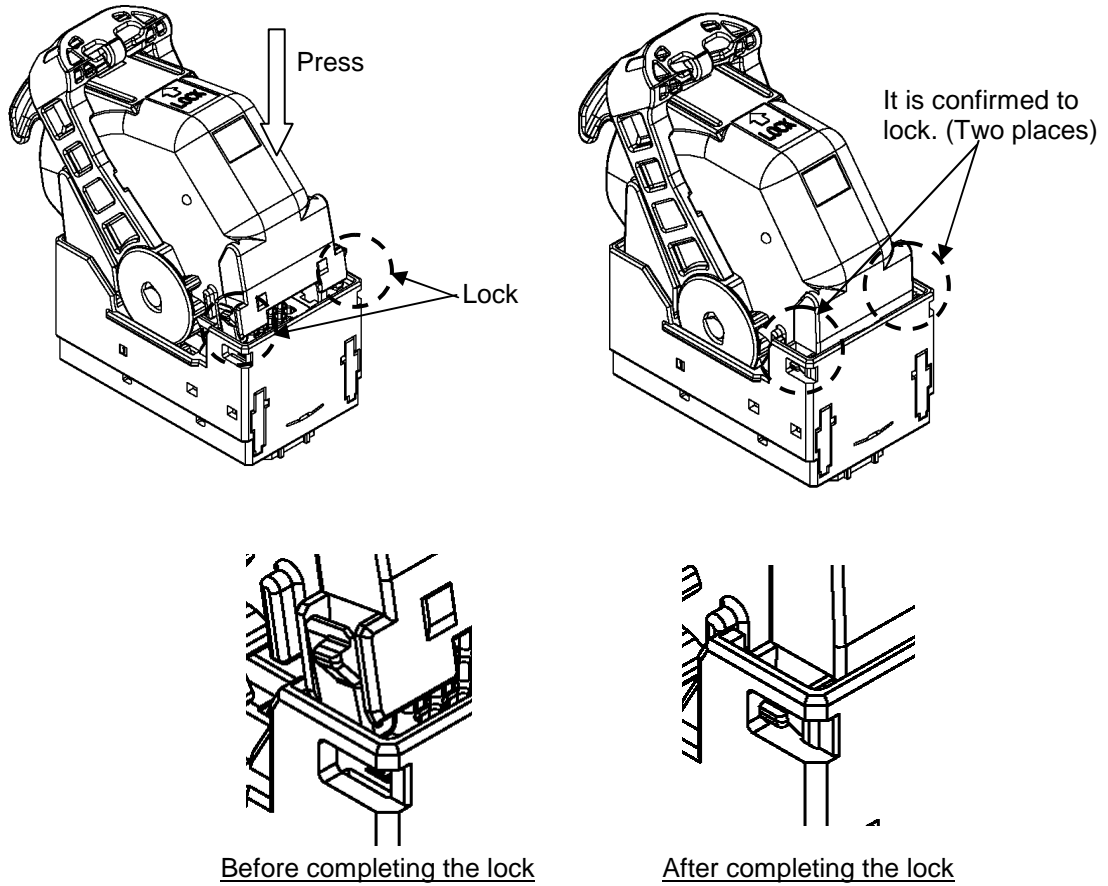

Fig.21
- ② While hooking the fix-lock of the wire cover to the fix-lock insertion hole of female connector , please insert the lock to press direction of the arrow as fig.21.
NOTE After wire harness and connector are assembled , please operate and ship in lever lock condition (Fig.21).